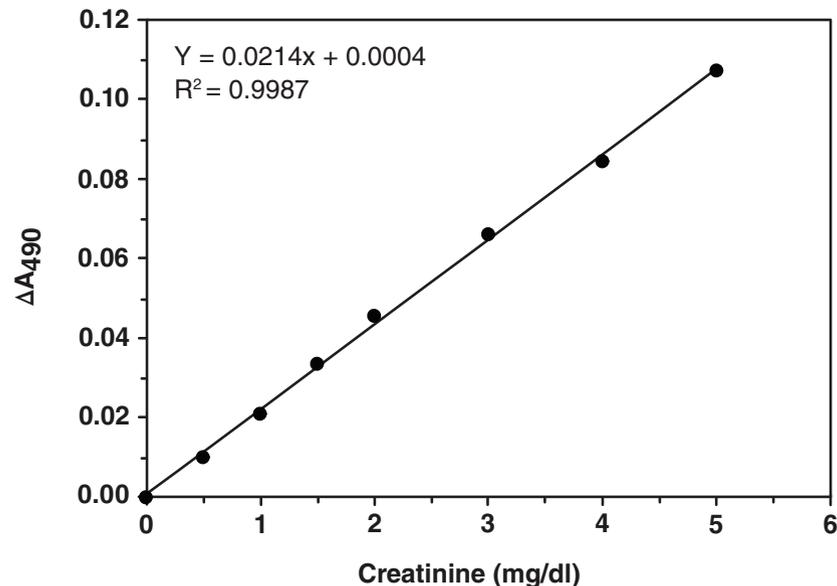

Figure 3. Typical creatinine standard curve
3. Plot the adjusted Δ O.D of the standards (from step 2 above) as a function of the final concentration of creatinine from Table 2. See Figure 3, on page 17, for typical standard curve.